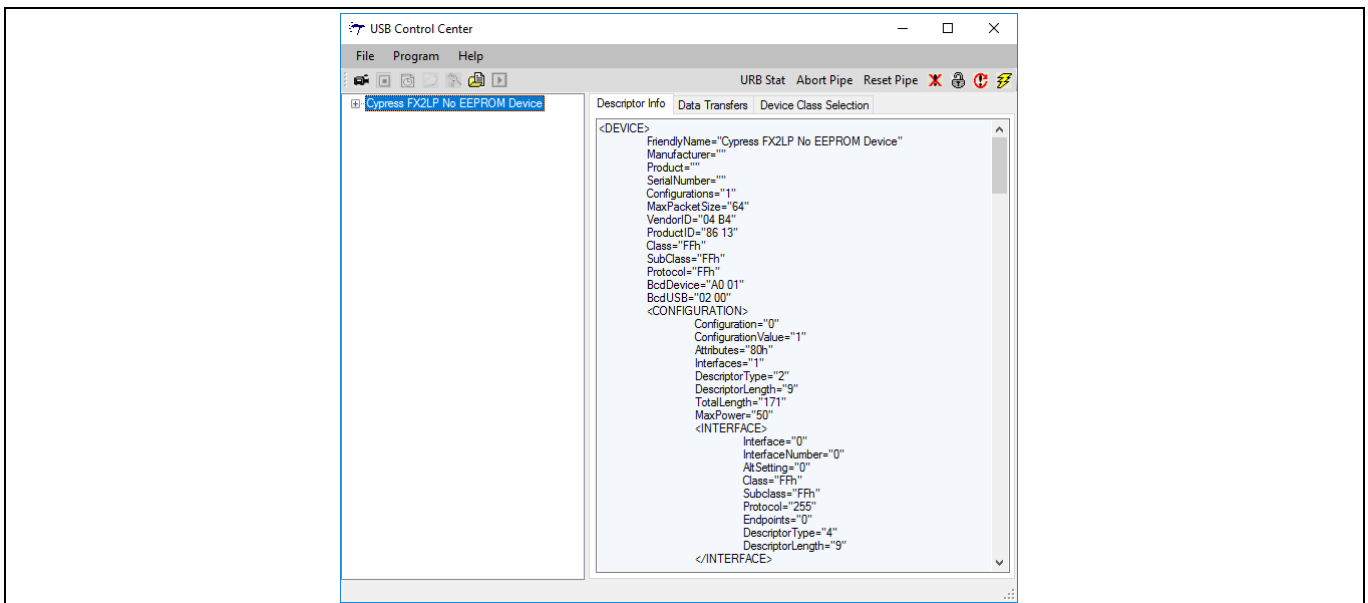

Figure 30 USB Control Center Tool
1. Browse to the FX3 SDK installation directory. Open the USB Control Center application (CyControl.exe) from the location *<Installed directory>\<version>\application\c_sharp\controlcenter\bin\Release*. Choose the Cypress FX2LP device as in **Figure 30**.